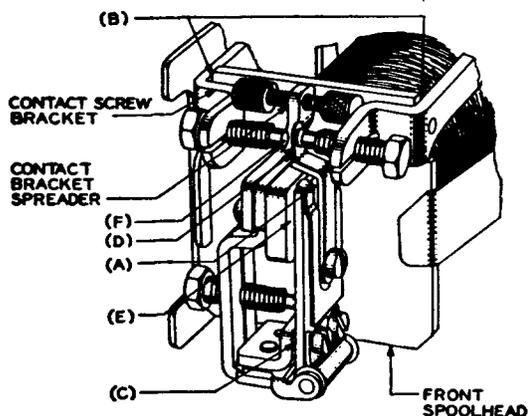

Fig. 1 — Relay Equipped With Contact Bracket Spreader
1.01 Clearance Between Contact Spring and Retractable Spring: Fig. 1(A) — Contact spring and its support shall not touch sides of slot in retractile spring in operated or unoperated position of armature.
- (1) Studs on brackets fall within slots in spoolhead.
- (b) Relays with contact bracket spreader, Fig. 1(B):
1.05 Base Gap (Readjust Only): Fig. 1(C) — Min 0.009 inch, Max 0.011 inch. No. 74D gauge.
- (a) Fig. 1(D): Min 3, Max 7 grams against spring support. No. 70F gauge. For "test" the requirement is met if contact spring rests on support at least within 1/16 inch of extreme end of support.
1.07 Armature Travel: Fig. 1(E) — Min 0.009 inch, Max 0.011 inch. No. 74D gauge.
1.08 Contact Separation: Fig. 1(F) — Min 0.003 inch, Max 0.005 inch. No. 74D gauge.